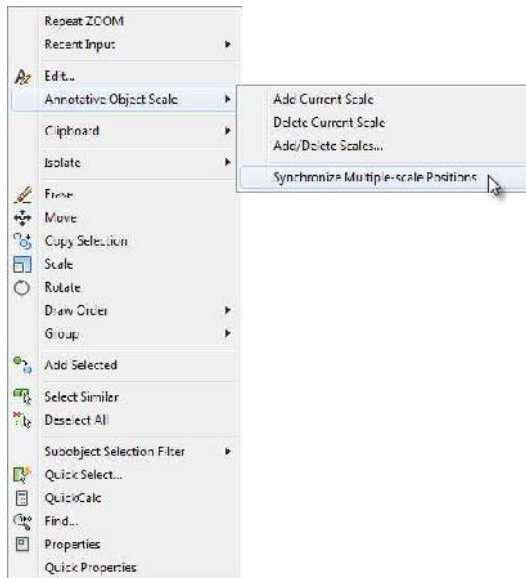

FIGURE 8.23: Choosing the Synchronize Multiple-Scale Positions option from the context menu
4. With the LIVING ROOM text still selected, right-click and choose Annotative Object Scale > Synchronize Multiple-Scale Positions from the context menu shown in Figure 8.23.